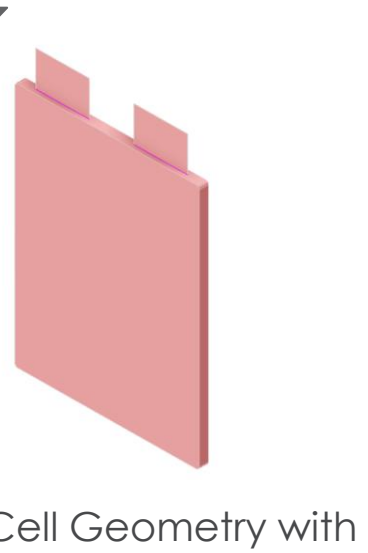

Fig.7. Cell Geometry with Negative and Positive Tabs
- For a more technical approach, ANSYS SpaceClaim was then utilized to commence the modelling process at the lowest scale, focusing on individual pouch cells. These were represented with detailed models, capturing factors such as positive and negative tabs, materials, and specification accurate dimensions (Fig.7.).